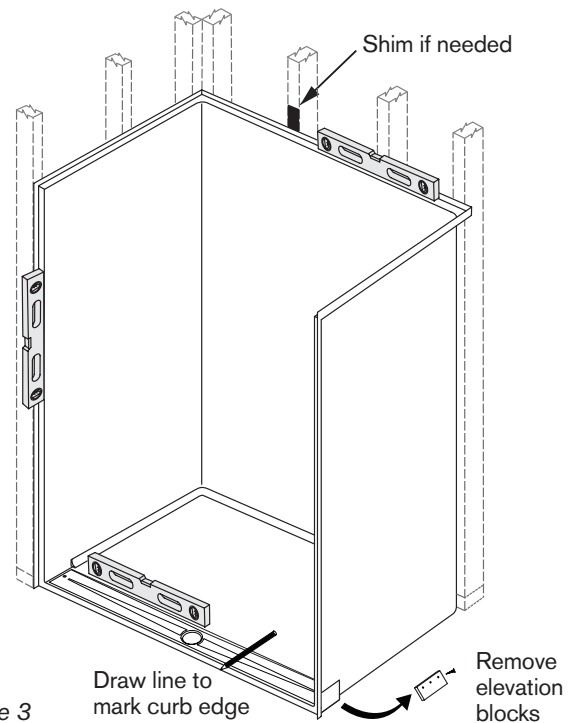

Figure 3
- 3 **DRY-FIT THE SHOWER:** Unscrew and remove any elevation blocks at front sides and/or back. Set shower unit in the pocket. You **MUST** use a level to ensure shower is level, without low spots, and positioned correctly. Shim if necessary. Draw a line on the floor along front edge of shower. (Figure 3)